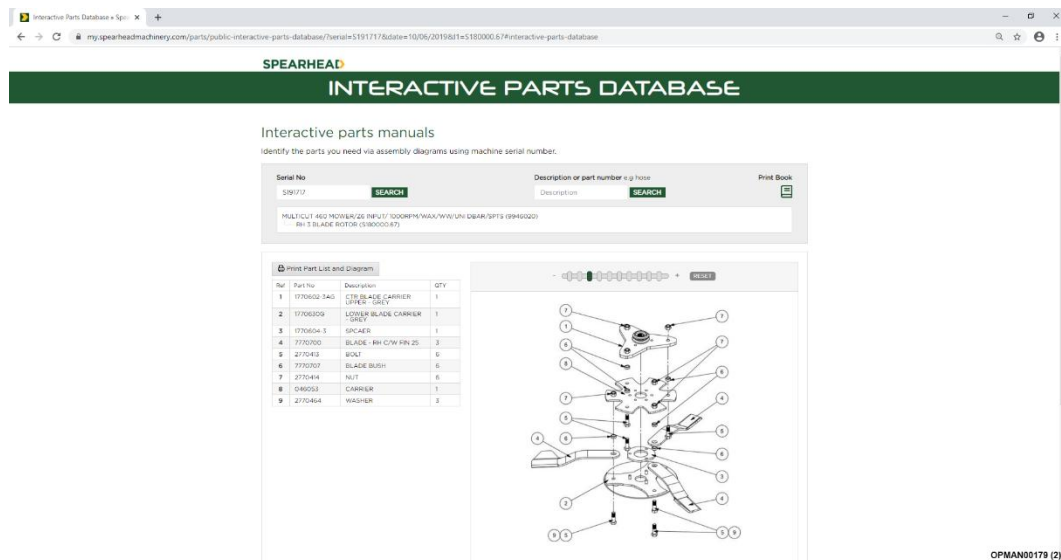

Figure 35 – Exploded Parts Breakdown With Bill Of Materials
11.2.1.4 You will finally be presented with a full exploded parts breakdown for that particular assembly, giving part numbers and the quantities required; see Figure 35.